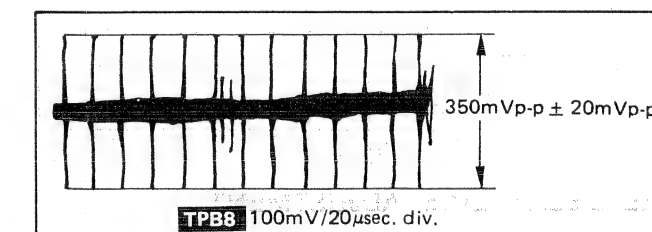

Fig. 4
4. Adjust R329 (Aperture Adj.) so that the **TPB8** becomes 350mVp-p \pm 20mVp-p as shown in Fig. 4.